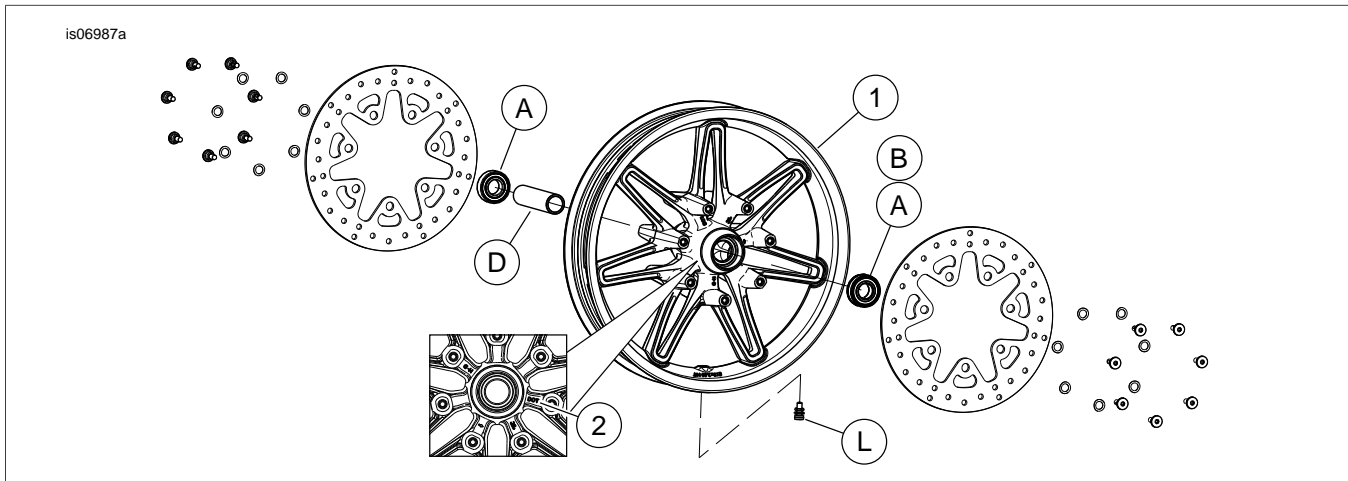

Figure 1. Service Parts: Chisel Front Wheels (17-inch shown)
See Figure 1 and the Service Parts Tables.
2. See Figure 1. Install valve stem assembly (L) on wheel. See the service manual.